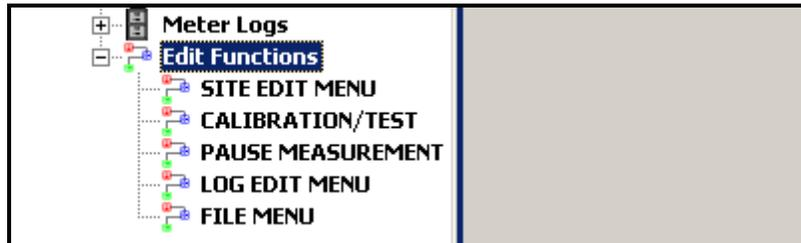
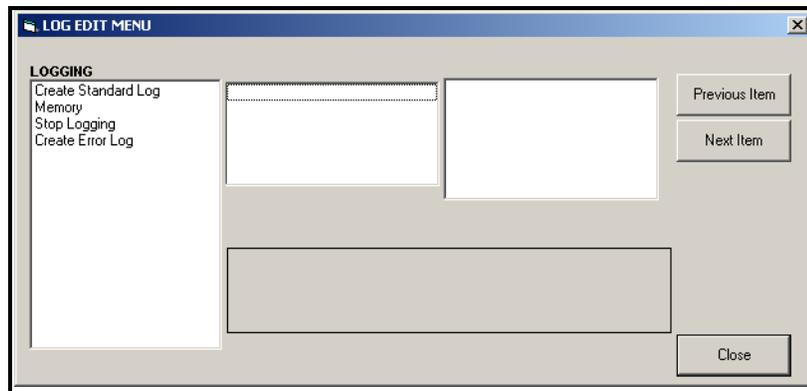

Figure 3-1: The Edit Functions Menu for an XGM868i with a Logging Card
Figure 3-2: The Log Edit Menu Window
1. From the *New Meter Browser* in PanaView, expand the network tree and open the *Edit Functions* option (described on page C-6 of Appendix C, *Programming the XGM868i via PanaView*). The menu will appear similar to Figure 3-1 below.
2. Double-click on the *Log Edit Menu*, as shown in Figure 3-1 above. The window appears similar to Figure 3-2 below.